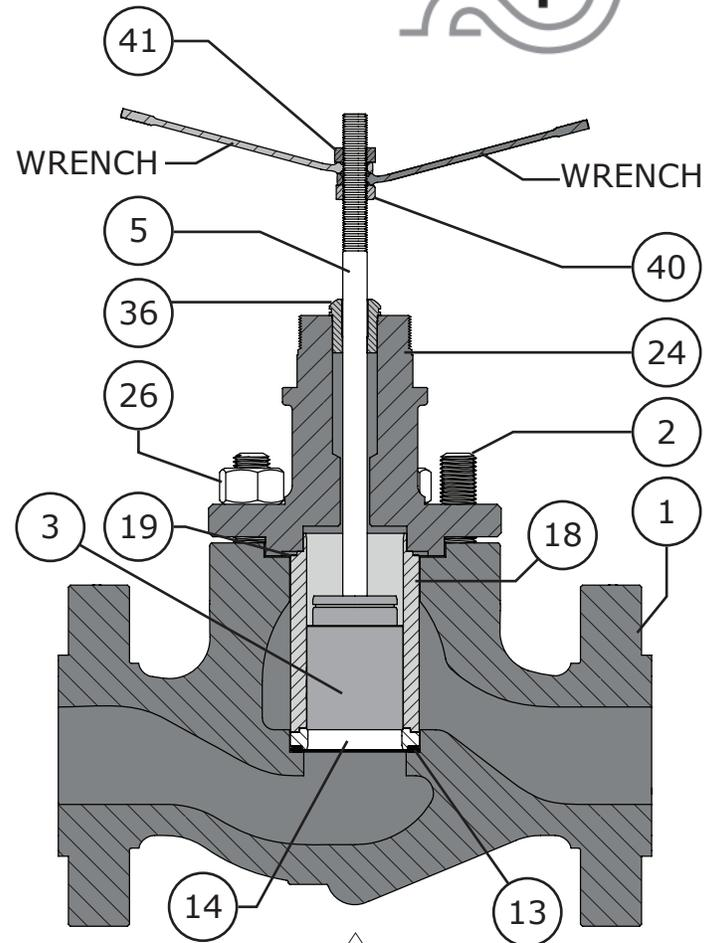

Figure 16 Lapping Procedure Setup (Steps 1 - 8)
- 8 Install the jam nut (Key 40) on to the valve stem (Key 5) and build a handle as shown in Figures 16 and 18 using the two wrenches and the hex nut (Key 41).